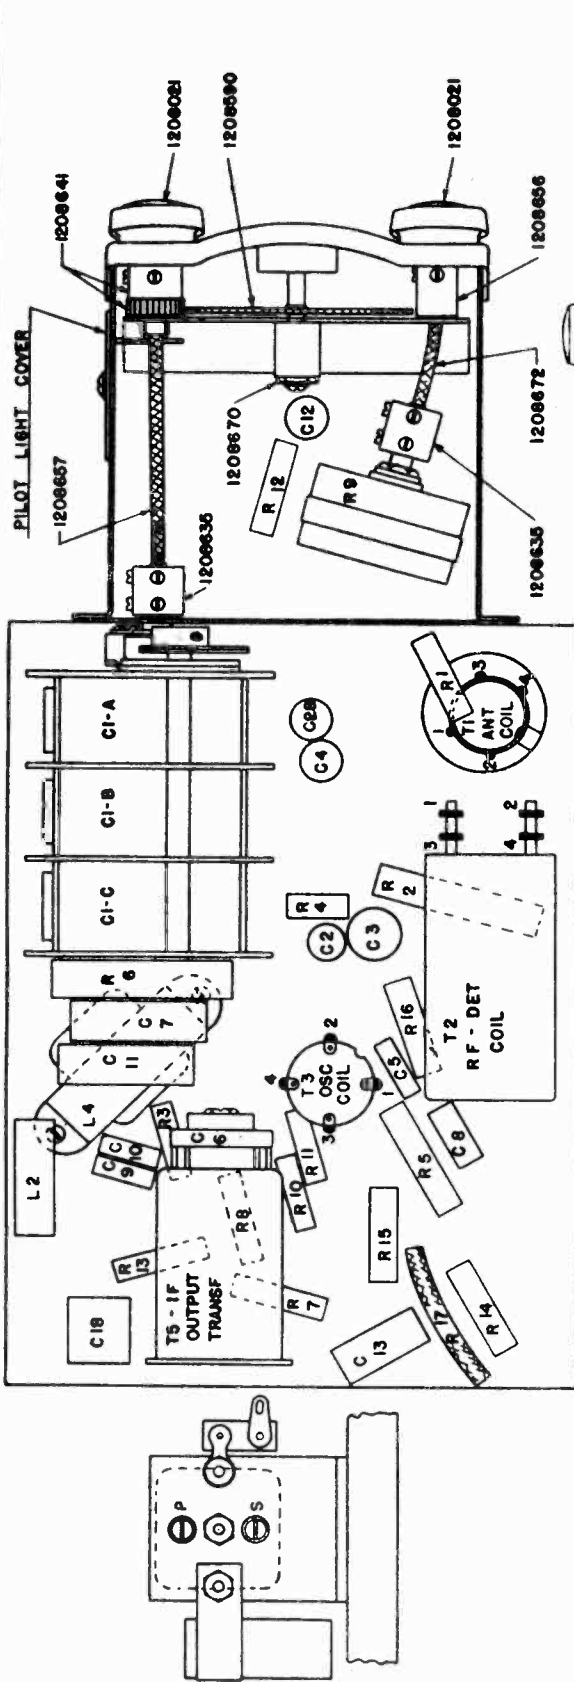

Fig. 7. Location of Parts Under Chassis.
1. Loosen the four set screws in the variable condenser coupling (1208635 in Fig. 7).